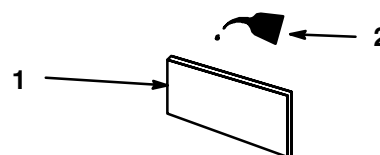

Figure 39
- C. Soak element in new engine oil. (Fig. 39). Squeeze the element to remove excess oil.